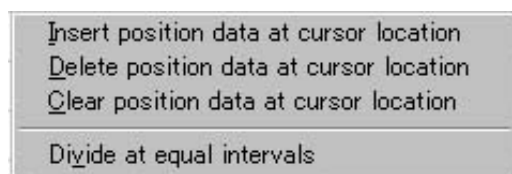

Fig. 5.8 Pop-up Menu
* The equal division function can also be implemented from the pop-up menu (Fig. 5.8) displayed by right-clicking the position data input area.